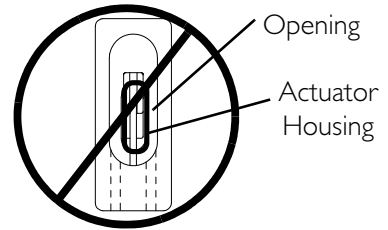

FIGURE 7.2 Adjusting Trigger Release Cables
NOTE: For this procedure, refer to FIGURE 7.2 on page 56.
- To Tighten - Turn the cable adjusting nut clockwise. DO NOT overtighten the cable adjusting nut (FIGURE 7.2).
- To Loosen - Turn the cable adjusting nut counterclockwise (FIGURE 7.2).
- Clockwise - Turning the cable adjusting nut clockwise will tighten the cable. DO NOT overtighten the cable adjusting nut. Turn the cable adjusting nut clockwise until actuator looks like Detail "A" of FIGURE 7.2.
- Counterclockwise - Turning the cable adjusting nut counterclockwise will loosen the cable. Turn the cable adjusting nut counterclockwise until actuator looks like Detail "A" of FIGURE 7.2.